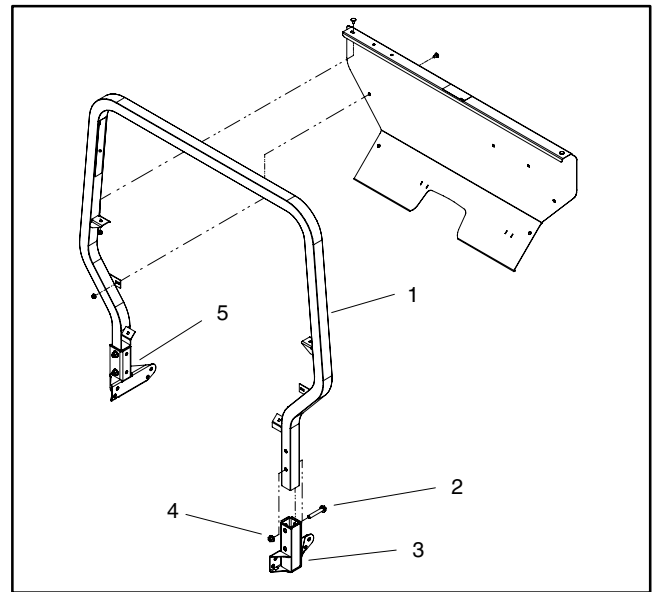

Figure 28
2. Remove ROPS from vehicle (Fig. 28)
4. Remove four (4) socket head screws that secure each seat to vehicle. Lift both seats from vehicle.
4. Install ROPS to vehicle with four (4) cap screws and flange nuts (Fig. 28).